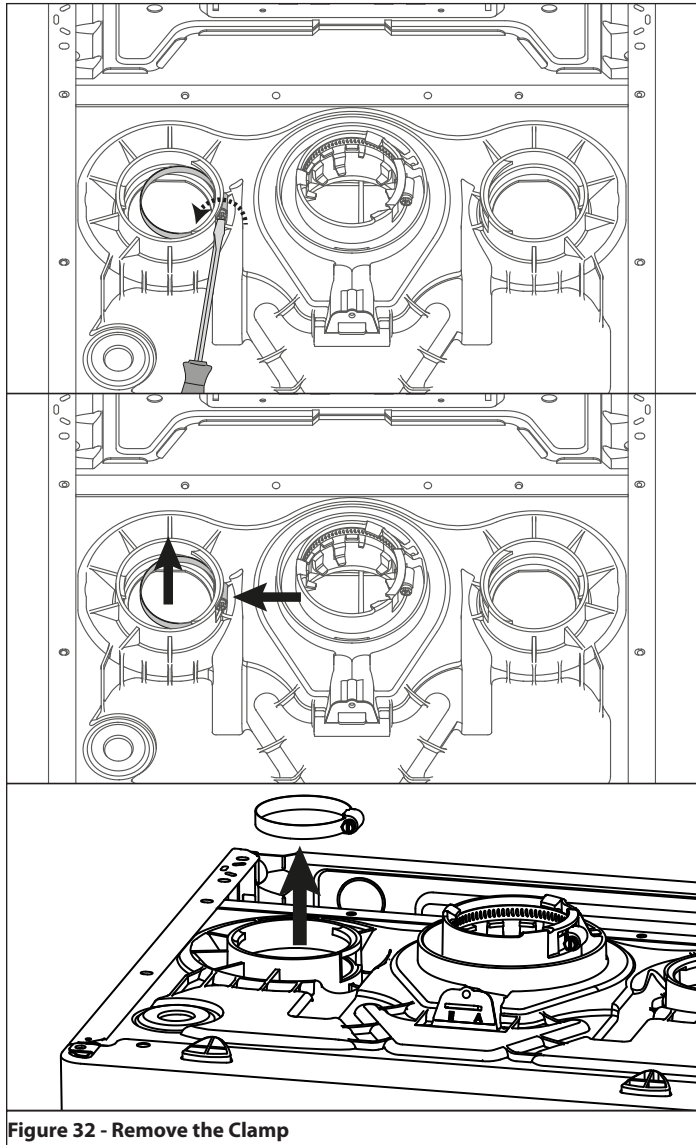

Figure 32 - Remove the Clamp
2. If using the right side connection, remove the gear clamp from the left side connection and install it on the right side. See Figure 32.
4. Tighten the gear clamp using a screwdriver. See Figure 32.